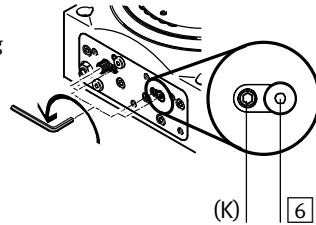

Fig. 11
9. Screw in the adjusting screw 6 until the desired cushioning is achieved → Fig. 11.
10. Tighten the clamping element (K) of the adjusting screw (tightening torque → Tab. 15).